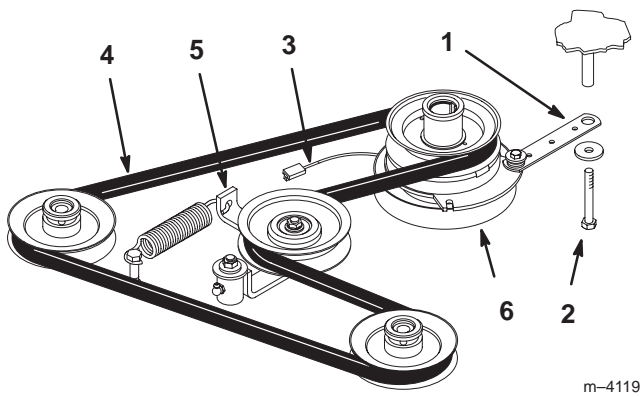

Figure 61
2. Remove the bolt from the clutch strap and unplug the clutch electrical wire (Fig. 61).
3. Pull the spring loaded idler to the side. Remove the traction belt from the engine and hydro pump pulleys (Fig. 61).
4. Install the new belt around the engine and hydro pump pulleys (Fig. 61).
5. Pull the spring loaded idler to the side and align the belt. Release pressure on the spring loaded idler (Fig. 61).